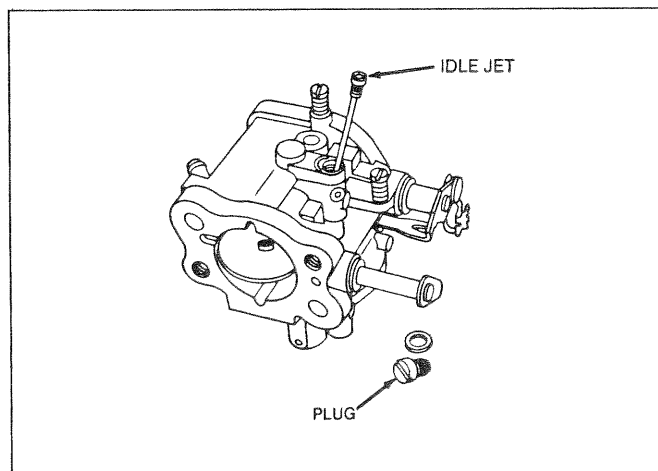

Figure 137. Idle Jet and Plug Installation
- Install the idle speed jet and plug (Figure 137). Tighten plug securely.